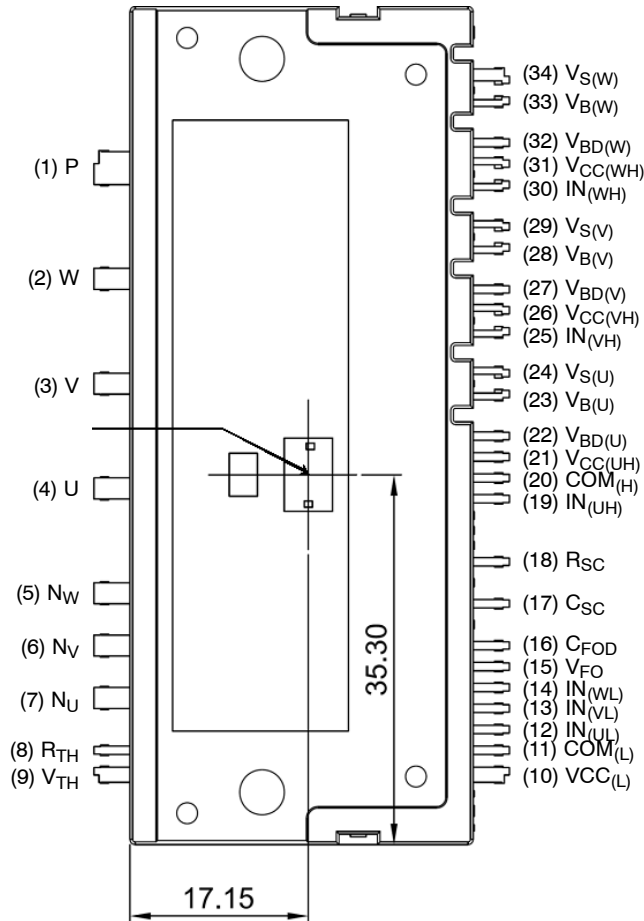

Figure 2. Top View
5. For the measurement point of case temperature (TC), please refer to Figure 2.